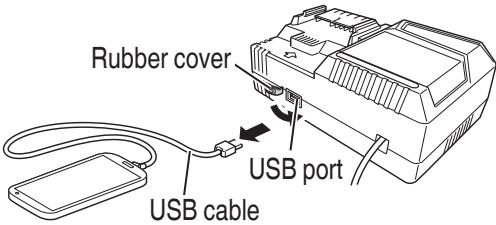

Fig. 9
- Unplug the power cord from the electrical outlet. (Fig. 9)